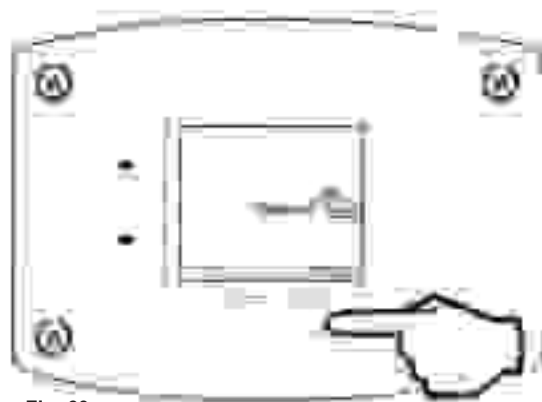

Fig. 60
1. While in 'Service Mode', press 'Select' button until '°F/°C' is shown in the upper right portion of the water heater display (Fig. 60).